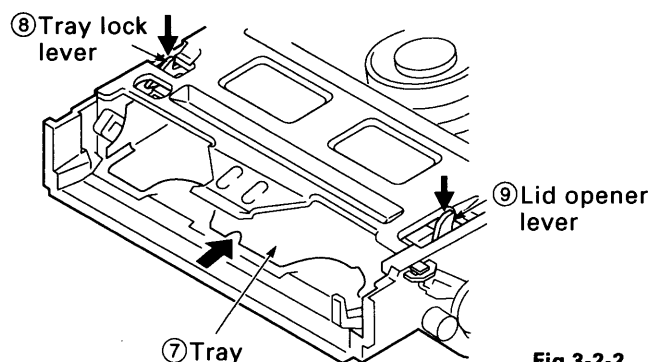

Fig.3-2-2
When carrying out front loading, release the lock by pressing down the tray lock lever ⑧ and the lid opener lever ⑨ of the cassette mechanism assembly (shown in Fig.3-2-2).
- 2) Unplug the flat cable ① from the VM-1/VP-1 PWB assembly on the cylinder (drum), and unplug the ACE head connector ②.
- 3) Unplug the dew sensor connector ⑩.
- 4) Remove the two screws ③, then remove the VM-1/VP-1 PWB assembly ④, lifting it upwards. The shape of the VM-1/VP-1 PWB assembly varies according to the model.
- 5) Remove the two screws ⑤ and the two screws ⑥, then lift up the mechanism unit. The tray ⑦ will stop you removing the two screws ⑤ on the front, so release the lock by pressing down the tray lock lever ⑧ and the lid opener lever ⑨ shown in Fig.3-2-2, then slide off the tray ⑦. Move the tray by referring to section 3-1 and turn the loading motor in the PLAY direction.